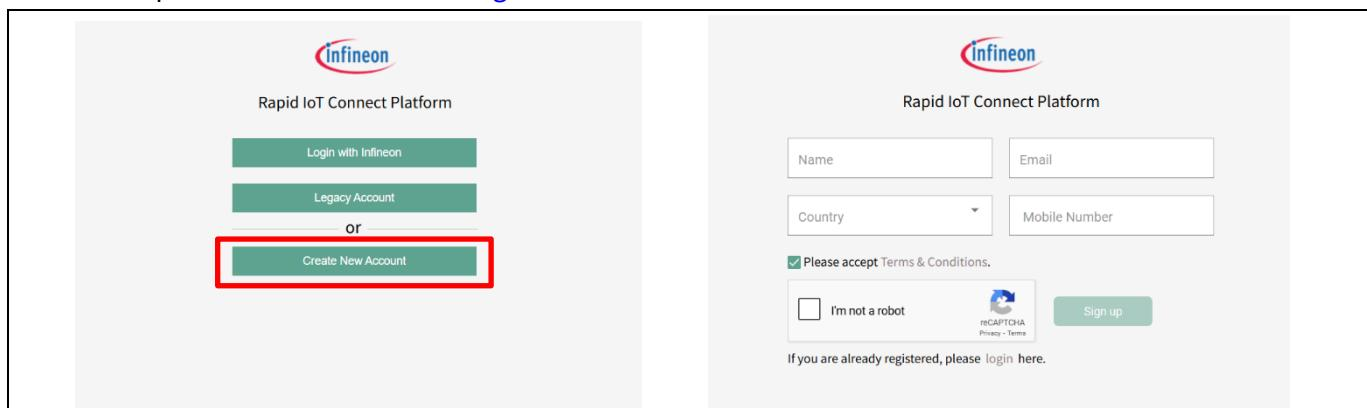

Figure 6 **Rapid IoT Connect Platform signup**
1. Create an account with the Infineon Rapid IoT Connect Platform by signing up with your email address and other required details as shown in Figure 6